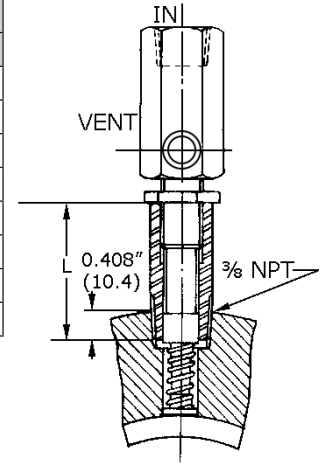
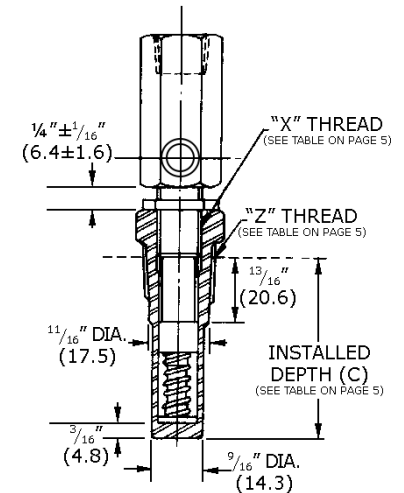

Figure 4
Figure 5
- Model 4103D valves can be installed by themselves (figures 1 & 2), in adapters (figure 4) or in a well (figure 5).
- Removal of one shim ⑫ changes the direction of the vent port approximately  $90^\circ$  when the valve is tightened. The shims may be removed as necessary to obtain the required vent location.
- Care must be used to obtain the proper relationship between the pin on the fuse rod assembly and the valve ball ⑦. Installed depths (Table 1 on page 6) are available in  $\frac{1}{2}$ " increments from  $1\frac{7}{8}$ " to  $9\frac{7}{8}$ " and must be held to within  $\pm \frac{1}{16}$ " when the unit is installed. To accomplish this setting, use one or both of the following methods:
- Air pressure - Install the valve in the mounting hole and apply slight air pressure to the IN port of the valve. Turn the valve into the hole until it starts to leak at the VENT port, then back off one turn and tighten in place with locknut ⑥.
- Gauge - Install the valve in the mounting hole and thread it in until the gauge strikes the  $\frac{3}{16}$ " diameter fuse rod when inserted in the VENT port. Turn the valve back out until the gauge slides past the  $\frac{3}{16}$ " rod and seats fully, with the small pin located in the gauge slot. Remove the gauge and thread the valve in one or two turns and tighten in place with locknut ⑥.